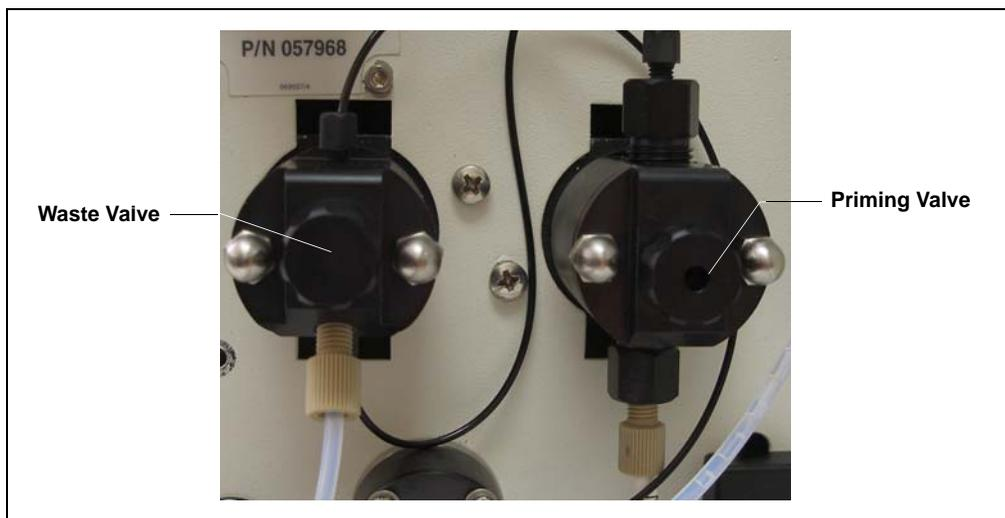

Figure 5-10. Waste and Priming Valves
1. Rinse the pump flow path with deionized water. Direct the flow to waste by opening the waste valve on the secondary pump head (see Figure 5-10). To open the valve, turn the knob one-quarter to one-half turn counterclockwise.
3. To remove the waste valve or priming valve from the pump head (see Figure 5-10), turn the knob counterclockwise until it is loose, and then pull the knob straight out of the cavity in the pump head.